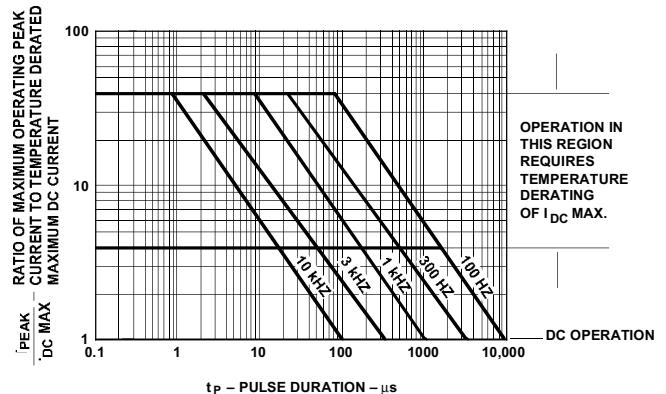

Figure 2. Maximum Allowed Peak Current vs. Pulse Duration – AlGaAs Red.
- 3. See Figure 2 to establish pulsed conditions.